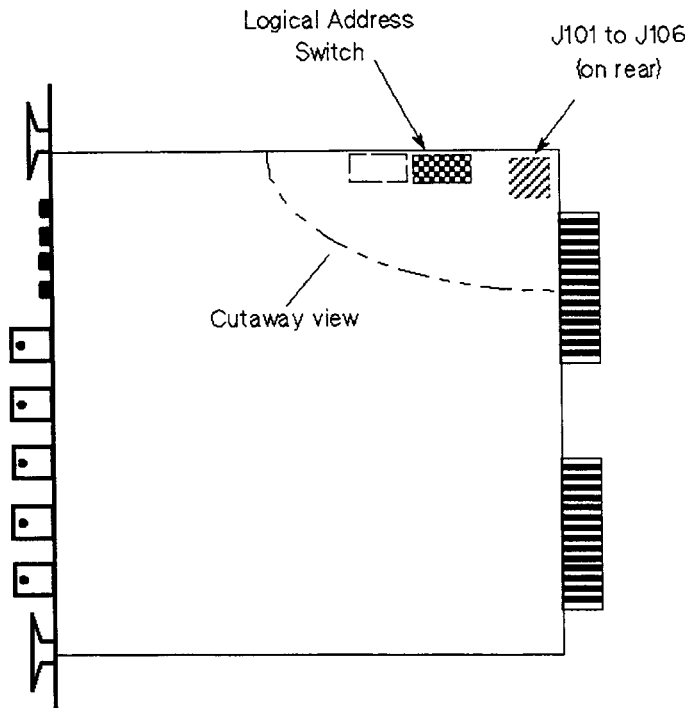
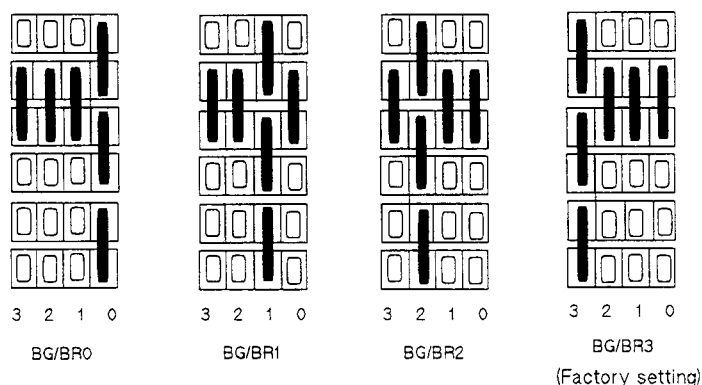

Figure 2-1. Address Switch and Jumper Location
Figure 2-3. Jumper J101 Links Settings
Figure 2-1 shows the location of the HP E1440A logical address switch. Access to alter the switch settings may be gained through a cutout in the module cover.
On the left hand side, close to the VXibus connectors, mounted on the circuit land side of the control printed circuit board, there are several connecting links which you can change to alter the module configuration for control interrupt priority. The link locations are shown on Figures 2-1, 2-2 and configurations are shown on Figure 2-3. Access is gained through a cutout in the cover.
2. Refer to figure 2-3 and remove the single jumper from the column where you want the full column jumpered according to the BG/BR level you require